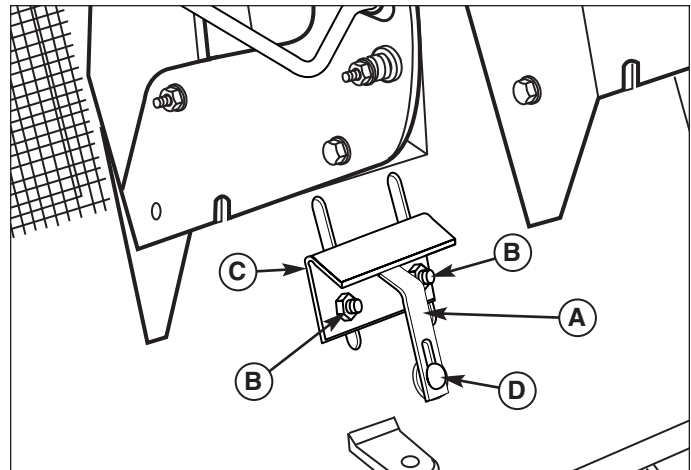

Figure 30. Catcher Alarm Adjustment
Sliding the paddle bracket (C, Figure 30) up increases the volume of grass in the collector before the alarm goes off. Sliding the paddle bracket (C) down decreases the volume of grass in the collector before the alarm goes off.
1. Loosen bracket hardware (B).
2. Slide paddle bracket (C) up or down.
3. Tighten bracket hardware (B).